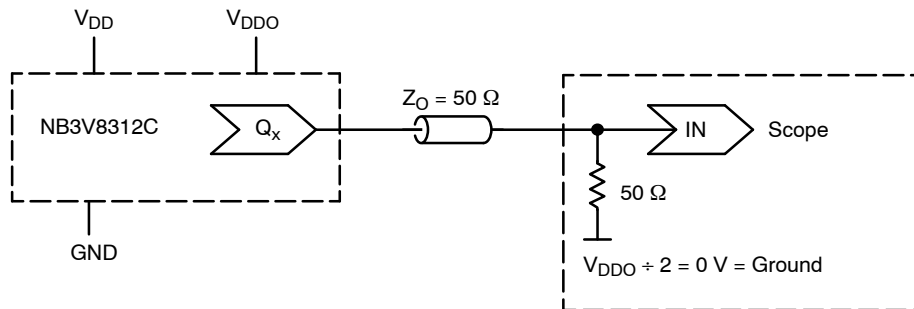

Figure 7. Typical Device Evaluation and Termination Setup – See Table 8
6. Outputs terminated $50\text{ }\Omega$ to $V_{DDO}/2$ unless otherwise specified. See Figure 7.
7. Outputs loaded with $50\ \Omega$ to $V_{DDO}/2$; see Figure 7. CLOCK input with 50% duty cycle; minimum input amplitude = 1.2 V at $V_{DD} = 3.3\text{ V}$, 1.0 V at $V_{DD} = 2.5\text{ V}$, $V_{DDO}/2$ at $V_{DD} = 1.8\text{ V}$.
7. Outputs loaded with $50\ \Omega$ to $V_{DDO}/2$; see Figure 7. CLOCK input with 50% duty cycle; minimum input amplitude = 1.2 V at $V_{DD} = 3.3$ V, 1.0 V at $V_{DD} = 2.5$ V, $V_{DD}/2$ at $V_{DD} = 1.8$ V.